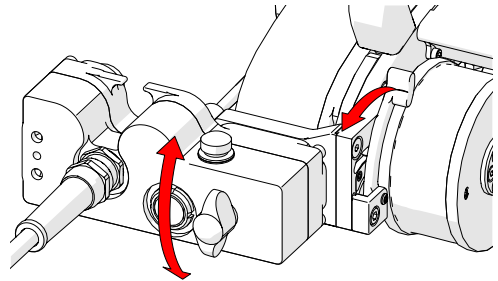
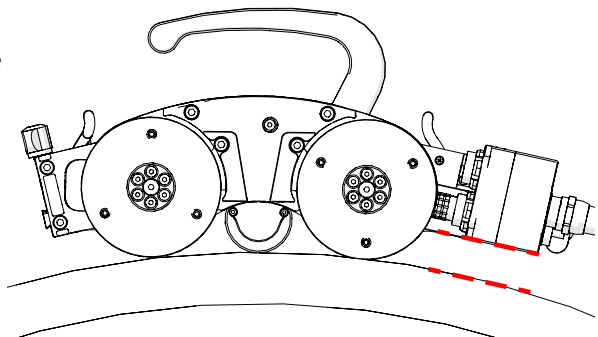

Fig. 105 - Adjust umbilical mount angle
Fig. 106 - Align umbilical parallel to scan surface
7. Unlock the umbilical mount lock lever, align the umbilical parallel to the scan surface (*Fig. 106*), and lock (*Fig. 105*).